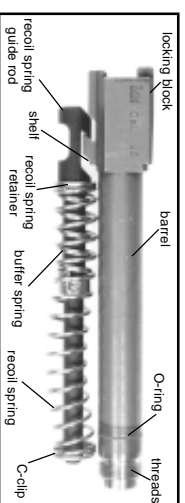

Figure 12 Proper Position for the Captured Recoil/Buffer Spring Assembly on the Barrel Locking Block
5. Push the rear of the recoil/buffer spring assembly forward enough so that the recoil spring retainer can be engaged on the shelf provided on the front of the barrel locking block (see Figure 12).